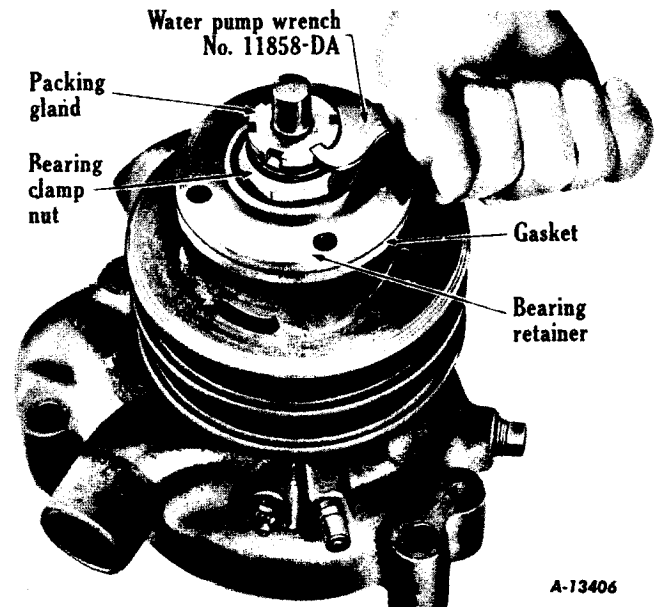

Fig. 16 - Pump Packing Gland Removal.
2. Remove the packing gland (Fig. 16).